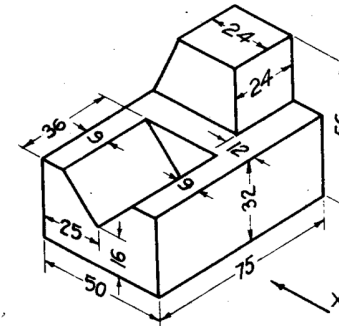

FIG. 18-27
(5) Fig. 18-27: (i) Front view. (ii) Both side views. (iii) Top view.